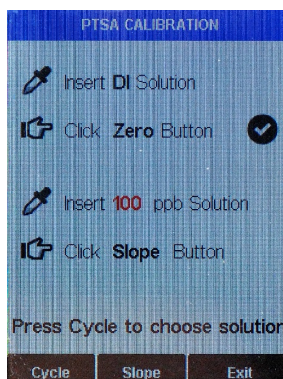

Figure 4.
7. If the calibration succeeds, a checkmark () and instructions for the slope calibration will appear (Figure 4).